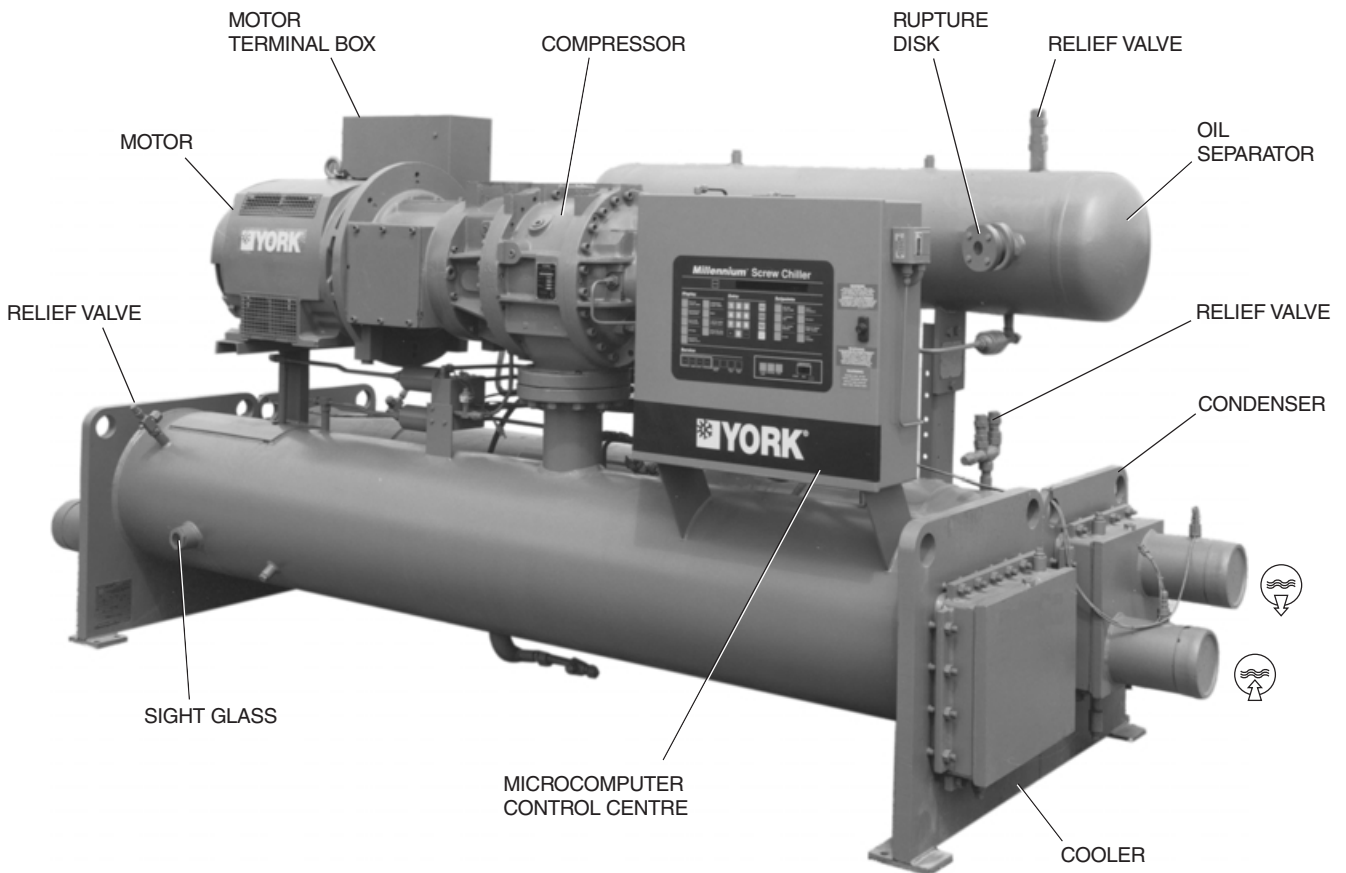

Figure 2.1 YS Rotary Screw Liquid Chiller (Front View)
2.1 General (Figures 2.1 and 2.2)